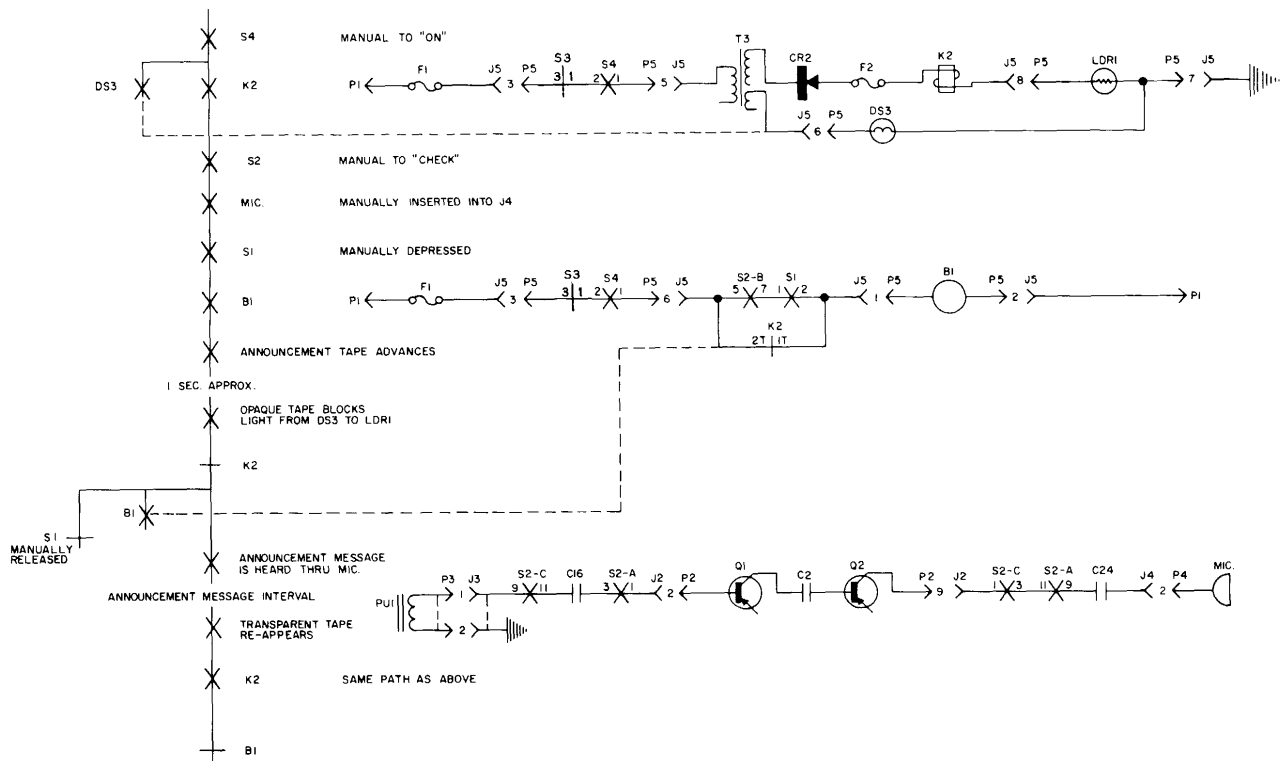

Figure 2. Check Announcements Sequence Chart.
3. CHECK ANNOUNCEMENTS (FIGURE 2)